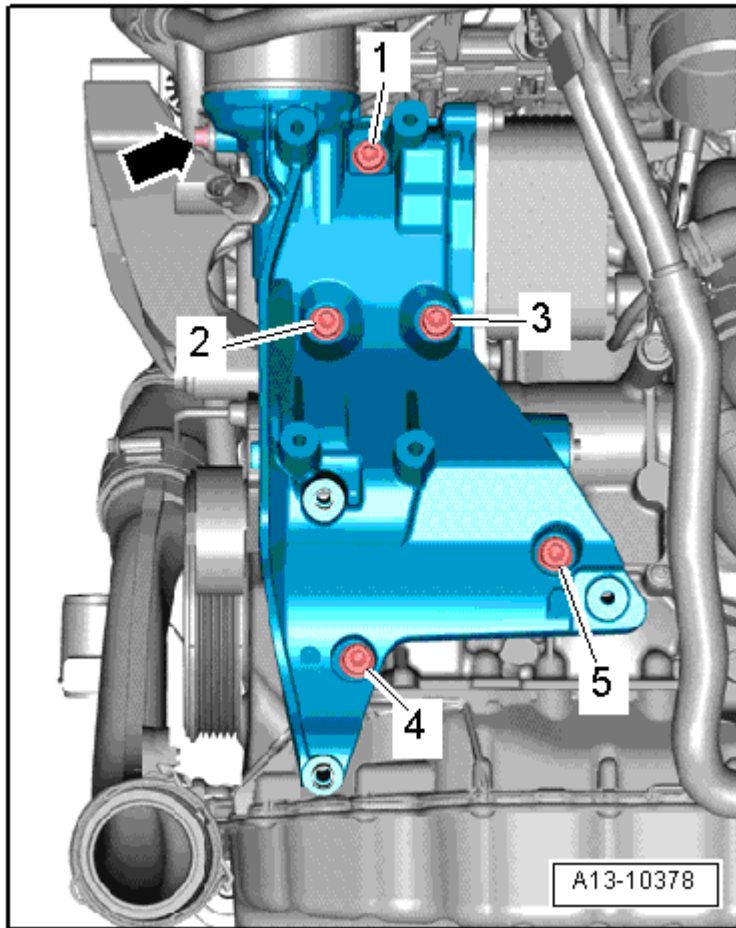

Fig. 8: Identifying Accessory Assembly Bracket Tightening Sequence
- Tightening sequence, refer to **Fig. 8**.